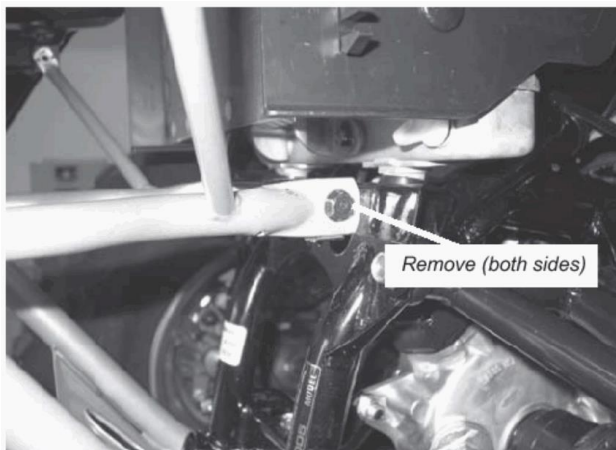

Figure 6 Remove Middle Bumper Bolts
- Remove the (2) middle bumper bolts that attach the bumper to the middle of the ATV frame, “Figure 6”. These two bolts will be replaced with the (2) supplied M8 bolts.